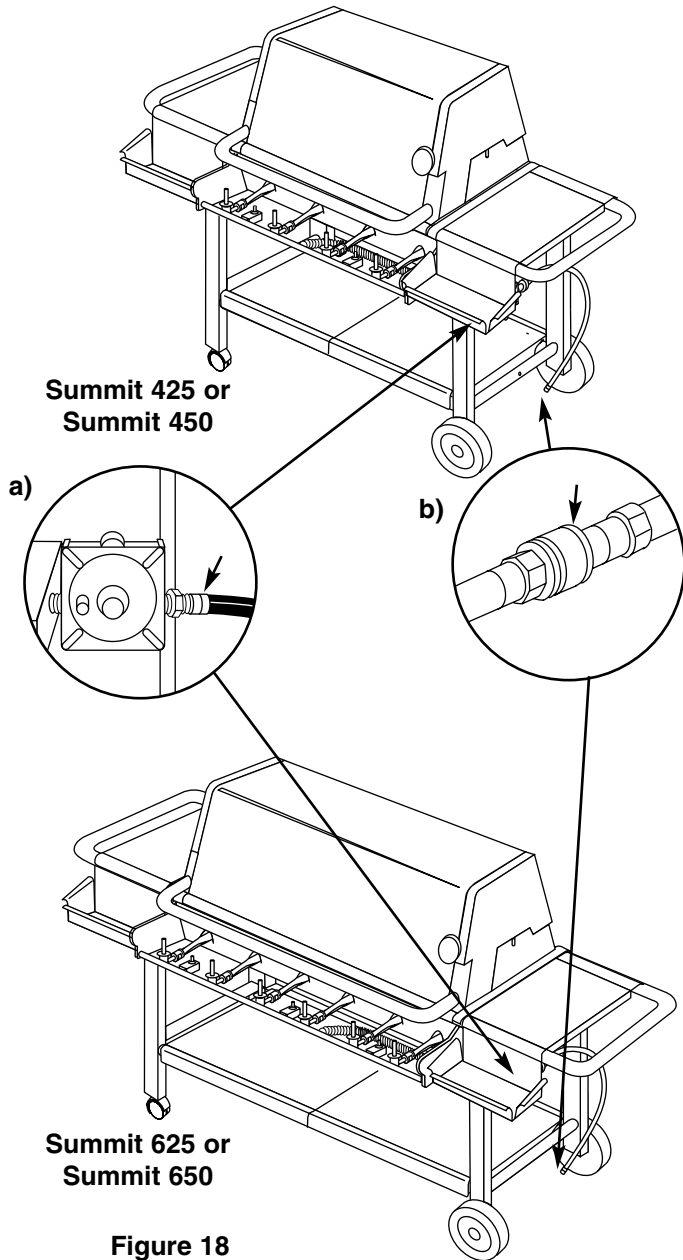

Figure 18
- a) Hose to regulator connection. Figure 18 (b).
- b) Hose to quick disconnect connection. Figure 18 (a).